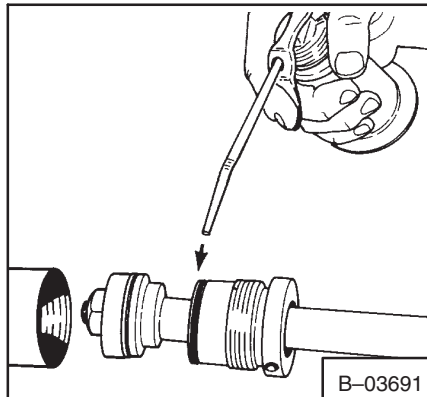

**Fig. 2-69** Installing The Piston
13. Remove the piston from the tool and install on the shaft (Fig. 2-69).